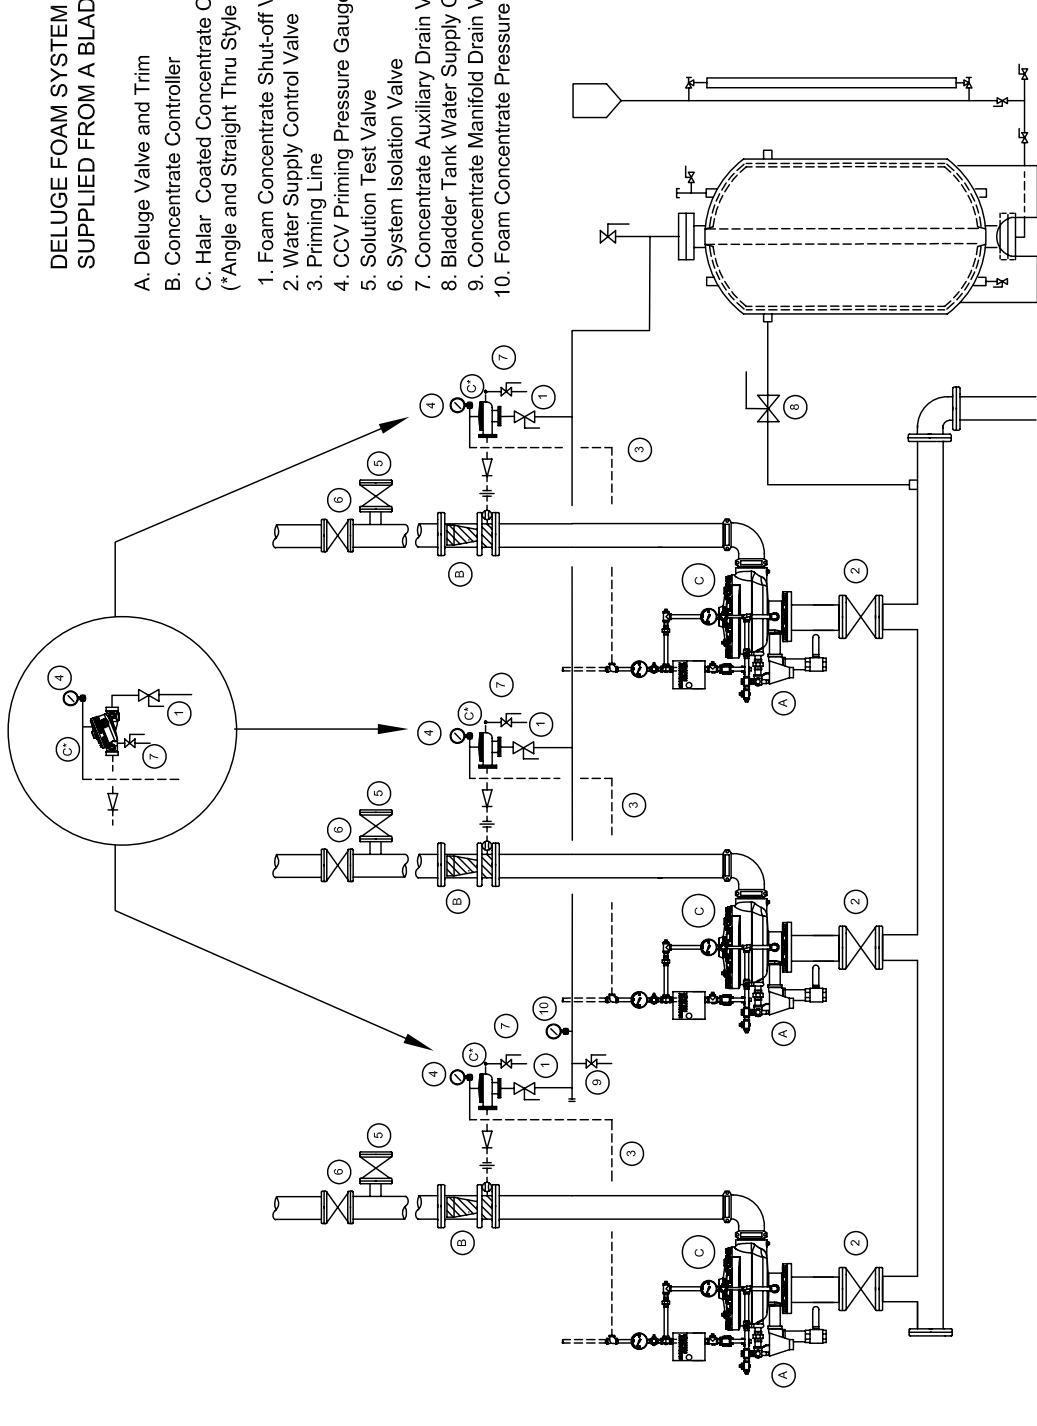

Figure 1
- A. Provide a minimum of 5 pipe diameters of straight pipe on the inlet and outlet of the concentrate controller (B) to minimize turbulence inside the concentrate controller.
- C. The Halar[®] coated concentrate control deluge valve (C) and swing check valve must be connected adjacent to the concentrate controller using pipe nipples as short as possible.
- D. Figures 1 and 2 are general schematics of the required piping arrangement. Refer to the appropriate technical data page for specific information regarding the valve, tank, and related trim and devices.
- F. The Halar[®] coated concentrate control deluge valve (C) does not require any trim, except for a 1/2" priming line and water pressure gauge and 3-way valve from the main deluge valve (A) to the priming chamber of valve (C). Plug all the remaining valve trim outlets. Connect Halar[®] coated concentrate control deluge valve (C) priming line to deluge valve (A) as shown on Figures 1 and 2. Refer to the "Valves" section of this data book to find the correct trim kit part number for the corresponding size of Halar[®] coated foam concentrate control deluge valve (C) required.